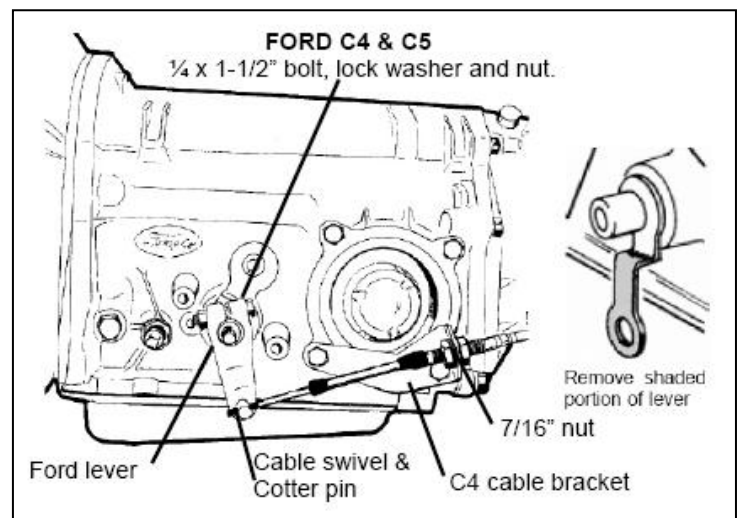

Figure 4
**STEP 15.** Install the **TCI®** selector lever (**See Figure 4 or 5**). Note: The **TCI®** lever must point downward for proper operation. If the stock shift lever on your transmission points down, you will have to remove the lower part of the stock arm by cutting it off to clear the **TCI®** lever (**See Figure 4**). Install the **TCI®** selector lever onto the shift shaft of the transmission. Align the selector lever so that when it points straight down it travels equal arcs in both directions from the center, then tighten the 1/4"-20 x 1 1/2" pinch bolt and nut. The lever should travel smoothly from front to back with a positive click in each gear position. Make sure the o-ring is in position on the downshift shaft and install the downshift lever in position on the shaft. Install the lockwasher and nut and tighten securely. The downshift lever must operate smoothly. Reconnect the downshift linkage.
**STEP 16.** Cable bracket installation: **C-4, C-5:** Remove the two lower bolts from the rear servo cover. Install the cable bracket in position (**See Figure 4**). Install the two servo cover bolts as removed and tighten to 12-13 ft. lbs. Do not over tighten as this can distort the servo cover. **C-6:** Remove the two transmission oil pan bolts from the left rear corner of the oil pan. Install the cable bracket in position (**See Figure 5**) with two spacers between the pan and bracket. (If your transmission is equipped with a cast aluminum oil pan, these spacers should be omitted.) Install the two 5/16-18 x 1.00" bolts supplied and tighten 12-13 ft. lbs. Do not overtighten as this can damage the pan gasket.